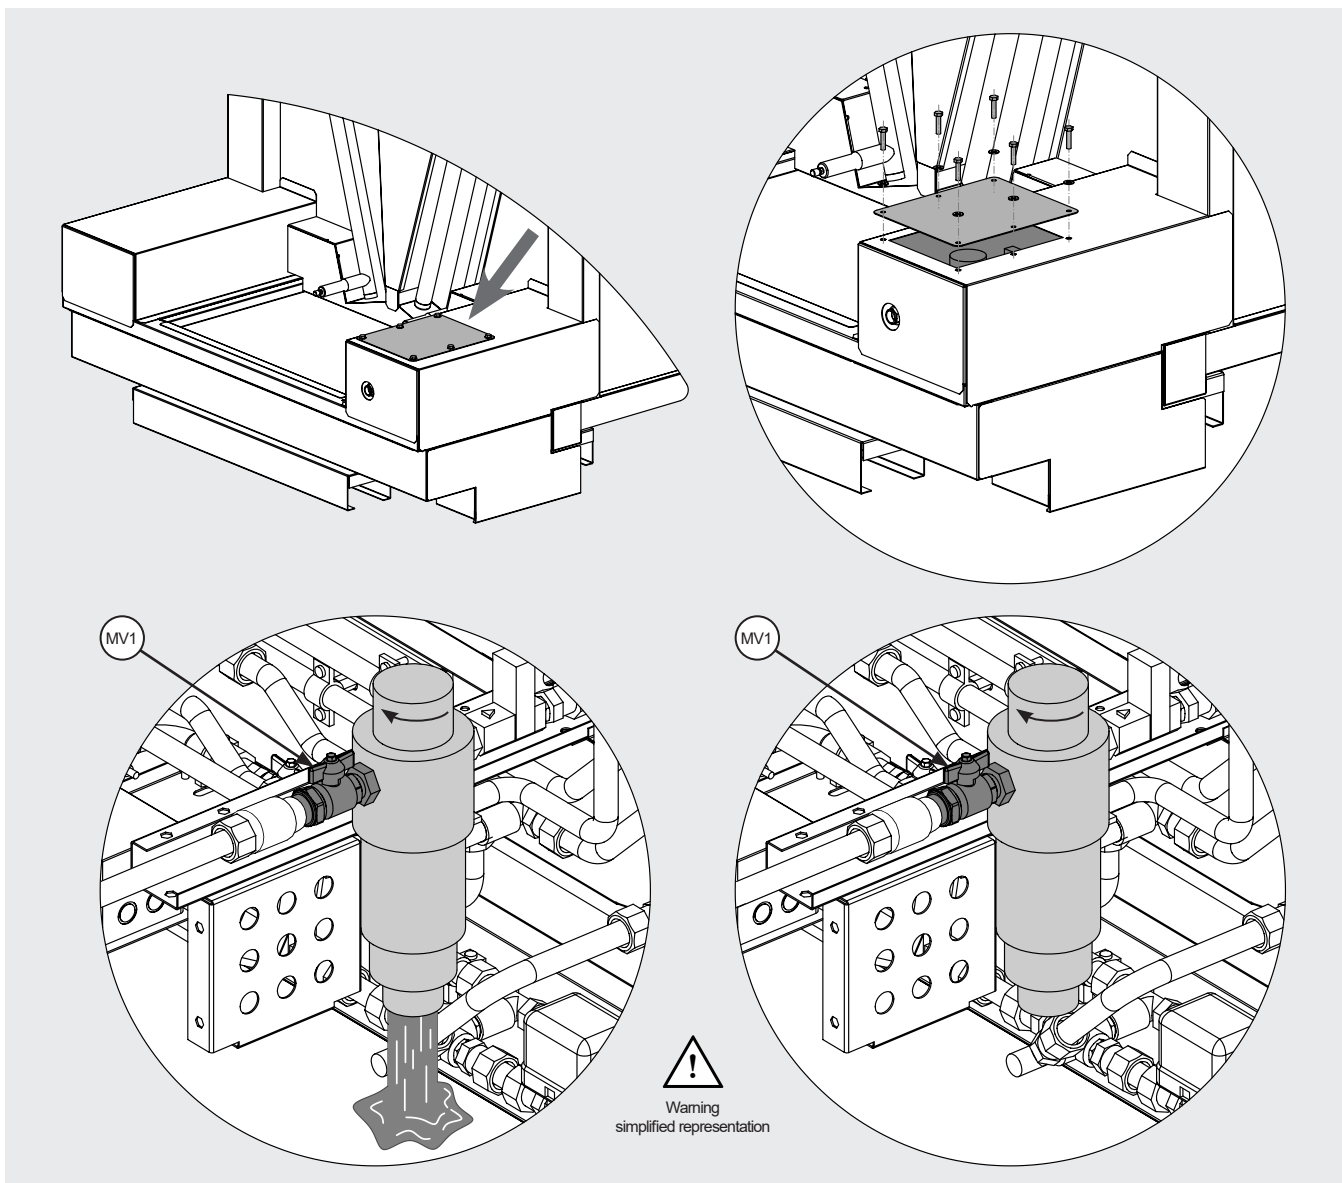

Figure 29
12.17.4 Locate the cover that protects the filter: it is located at the front of the model. See Figure 29. Remove the screws and washers that secure the cover and store them in an appropriate place. Remove the cover.
12.17.7 Make sure that mains water is available and that the manual valve (MV1) upstream of the filter is open, see Figure 29.
- 12.18.5 Ensure that the model is switched off, as per 12.1 - 12.4, and that the model's adiabatic circuit is isolated: close the inlet valve (MV1), see Figure 29.
12.18.12 When finished, open the previously opened valve (MV1), see Figure 29.
- 12.22.10 Clean the inlet water filter as per point 12.17 with the (MV1) valve (see Figure 29) closed. The residue will be discharged from the filter together with the water it contains.